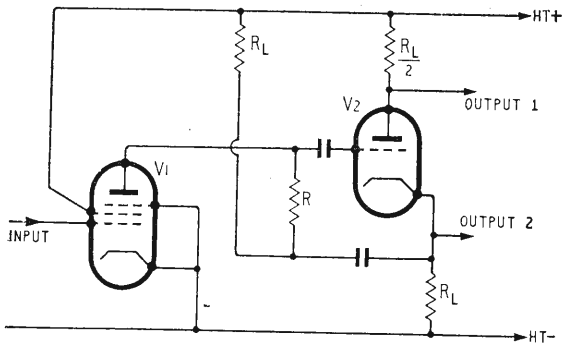

Fig. 4. Basic circuit of Jeffery's high-gain phase-splitter.
Two circuits that suffer from excessive h.f. phase shift are shown in Figs. 4 and 5. Fig. 4 shows the circuit due to Jeffery (ref. 3) and it is unnecessary to go into the details of the phase shift in this circuit again. The interested reader is referred to the correspondence following the publication of a subsequent article (ref. 4).